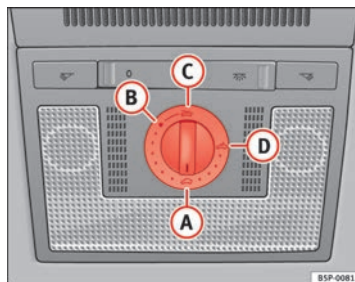

Fig. 68 Roof lining description: sliding/tilting sunroof rotary knob
- Turn the rotary button to position **A** ⇒ Fig. 68 ⇒ .